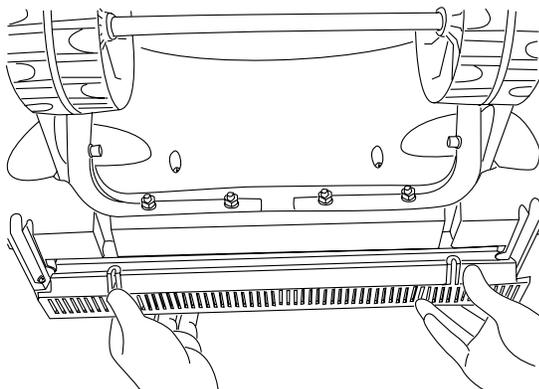

Figure 25
- Detach the worn scraper bar from the snow thrower by removing 2 screws that hold it in place (Fig. 25).